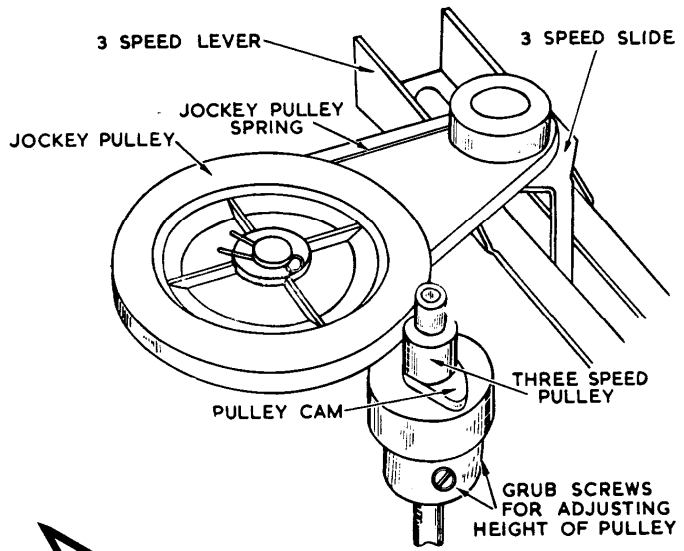

FIG. 4
- (1) Remove circlip at base of centre spindle and lift off turntable.
- (2) Set the three-speed knob at the 45 r.p.m. position.
- (3) Ensure that the three-speed slide is engaged on the centre step of the three-speed lever, see Fig. 4.
- (4) Slacken the two grub screws on the three-speed pulley, move jockey pulley wheel to the left and slide off the three-speed pulley, see Fig. 4.
- (5) Replace with new pulley for the required frequency and adjust until the jockey pulley is engaged mid-way on the centre step but clear of the pulley cam.
- (6) Tighten grub screws, replace turntable and circlip.